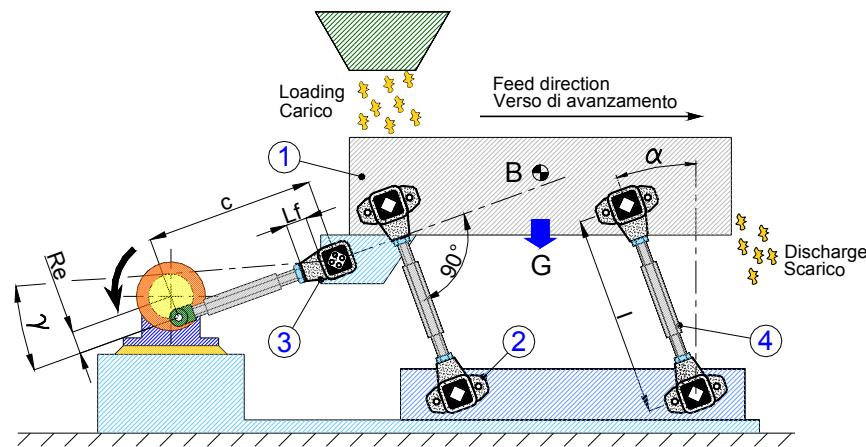
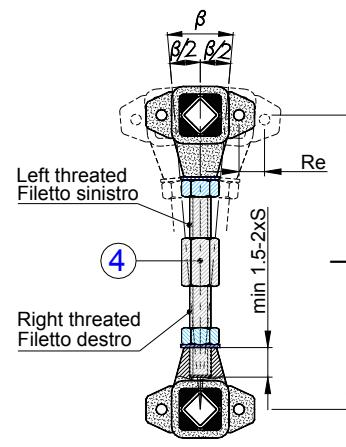

fig.1
fig.2
The system shown in fig. 1 is the most simple and inexpensive method to build conveyors for medium to long sized loose-material. This system consists of a sliding chute (1) supported by oscillating mountings (2) actuated by a crank-shaft drive device (3). These conveyors are used with rigid structures and are firmly fixed to the ground because the vibrating channel may work with accelerations up to 1.7 g. For these reasons, correct calculating of the machine is essential, while the appropriate choice of the VIB elastic elements improves the vibration absorption and optimizes the execution of the vibrating channel. This system consists of a chute supported by suspensions, each formed by 2 BT-F and actuated by a connecting rod TB that acts as an elastic bearing. This simple application can be used anytime dynamic forces are not too high because BT-F are charged with all loads and stresses. Fig. 2 illustrates the ideal design of a suspension using one connecting unit obtained by turning an hexagonal bar. Bar-end must be right-hand threaded and left-hand threaded respectively: this allows unavoidable adjustments of the interaxle distance which can be done with a wrench when setting up the system. In VIB range, oscillating mountings TP-S or TP-F are designed for use with similar engineering systems but with fixed suspension interaxle distance. During the design phase, power can be reduced by making the plant work under resonance condition, that is to say under a frequency near to the system one. Under this particular condition, the oscillation amplitudes increase a lot and giving the chance to reduce motor drive power with higher structure stresses.